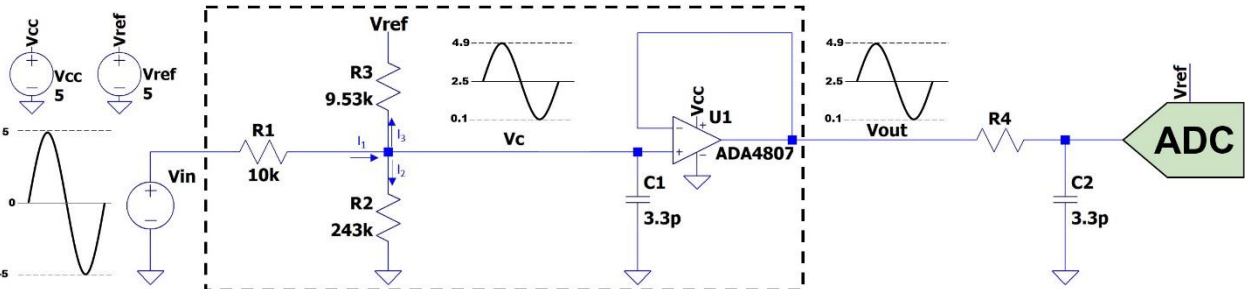
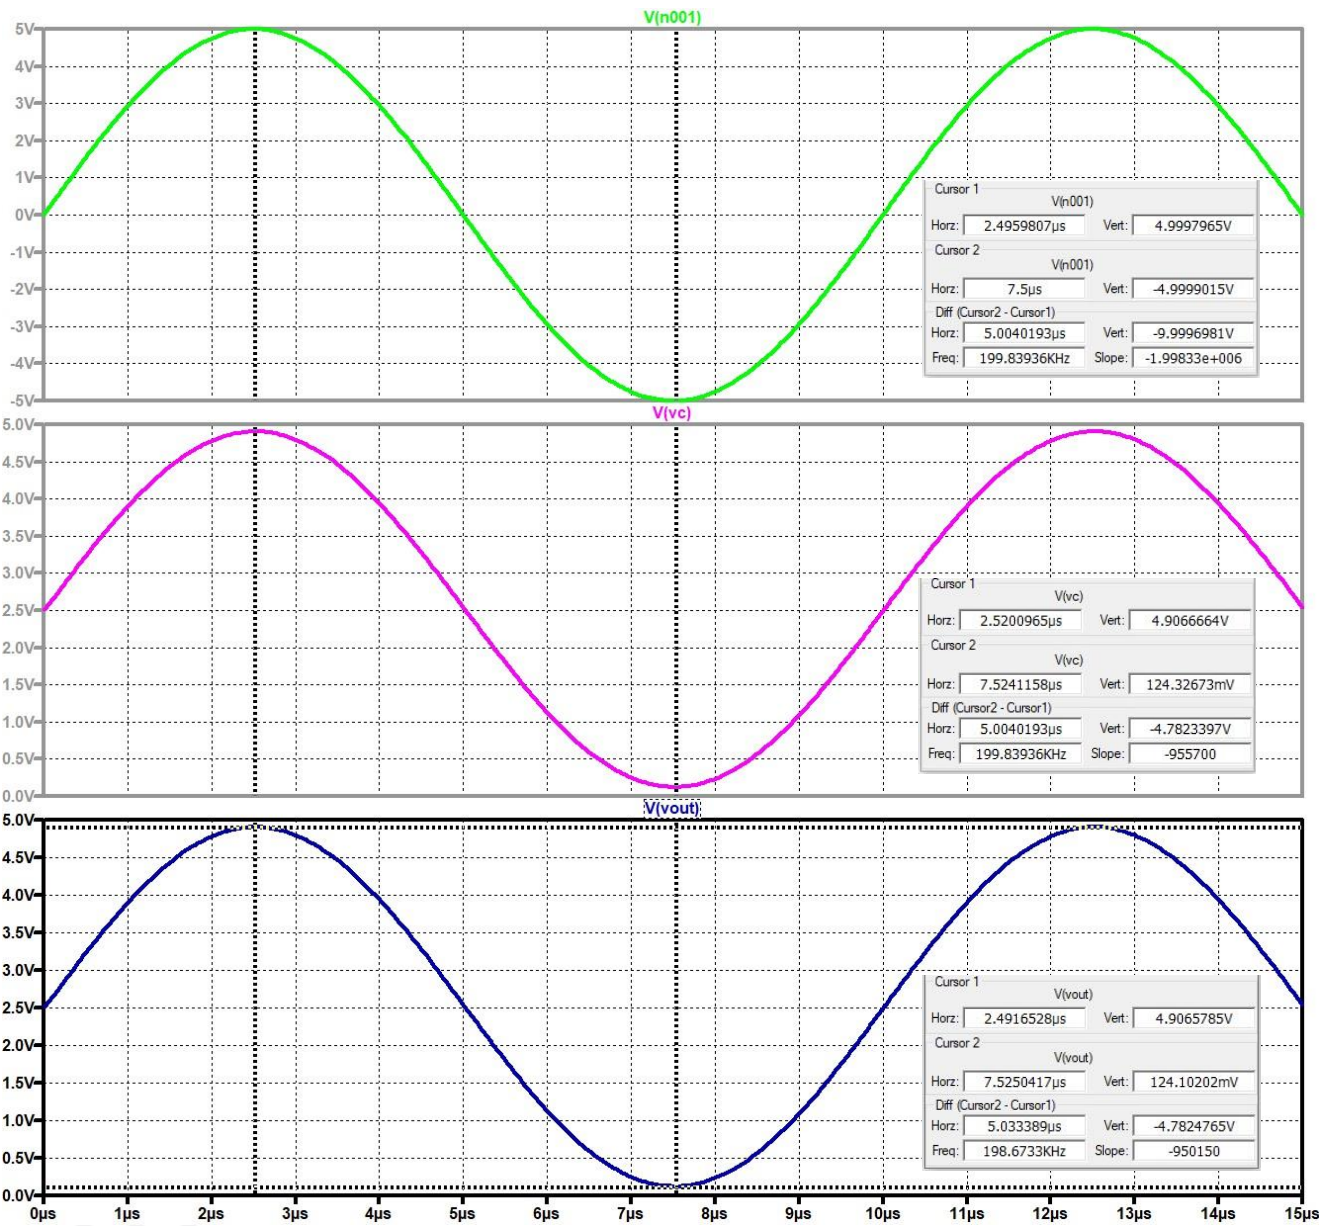

Figure 1. – Bipolar to Unipolar Conversion with Scaling and Level Shifting
Figure 4. – Input vs Conditioned vs Output
Inputs to ADCs are typically unipolar signals which swing from ground to the positive full-scale. Bipolar signals, which swing to positive and negative, require a circuit driver that translates and compresses the bipolar signals to the unipolar range of the ADC's input (refer to Figure 1).
For this example, the design requirement specifications are shown in Table 1. Input is -5V to 5V, as seen in Figure 1. Desired output is a unipolar signal from 0.1V to 4.9V. For a low offset voltage op-amp, $V_{out} \approx V_c$.
- Obtain the working equation using nodal analysis at node V_c . Refer to Figure 1. Current entering node V_c , I_1 , is equal to currents leaving, I_2 and I_3 .
The circuit shown in Figure 1 was simulated using the LTSpice simulation tool to determine if the 0.1V – 4.9V output range was met. Figure 4 shows the input signal, V_{in} , versus the conditioned signal, V_c . Note: Simulation used standard value resistors, $R_1=10k\Omega$, $R_2=243k\Omega$, $R_3=9.53k\Omega$ and $C_1=3.3pF$.
Use of a rail-to-rail input and output (RRIO) op-amp in its linear output voltage swing range and with its low input offset voltage, adds minimal error from V_c to V_{out} . The simulation presented in Figure 4 used the ADA4807. There is minimal difference between V_c , 4.7824V_{pp} (0.1243V–4.9067V), and V_{out} , 4.7825V_{pp} (0.1241V–4.9066V).